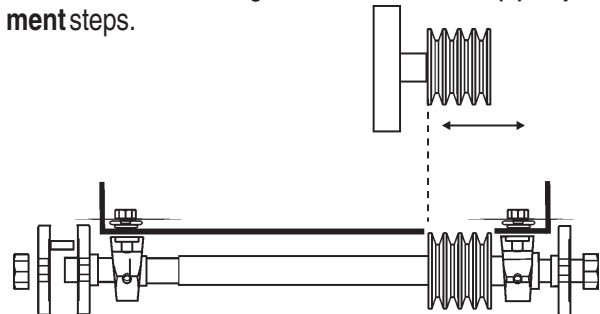
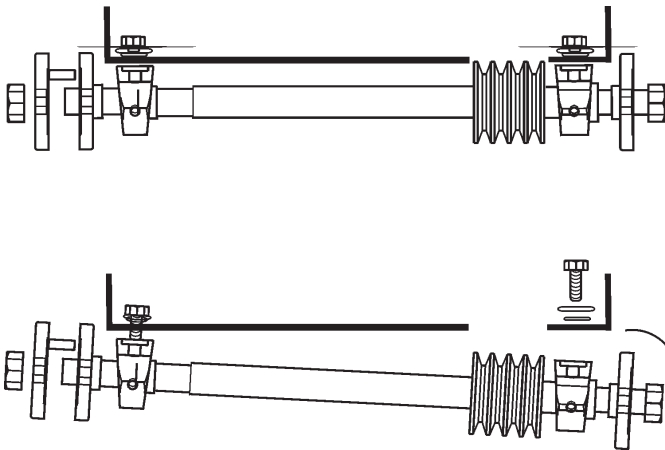

Figure 26. Pulley Alignment
Figure 30. V-Belt Removal
6. Reorient the new pulley on the shaft, and ensure precise pulley alignment by utilizing an accurate straight edge (see Figures 26 and 27).
- Remove **blade flanges** (page 46, items 7 and 8, **Blade Shaft Assembly**) as required to permit the Shaft Bearing(s) to slide off the blade shaft.
- Loosen/remove shaft bearing(s) **hex head cap screws**, page 44, item 11.
6. Tighten the hex head cap screw, page 46, item 11 to secure the shaft bearing (s) to the frame.
7. To complete the re-installation process, reverse the order of the above mentioned steps. For V-belt adjustment and tensioning see pages 32 (Figures 26 and 27) and page 34(Figure 30).
1. Remove the Belt Guard (page 50, item 17), then loosen the tension of the V-Belts
2. Loosen the Engine Mount Carriage Bolt (page 48, item 4).
3. Loosen the (4) 3/8" HHC screws (page 48, item 7).
5. Loosen the (2) 3/4" HHC screws that support the Blade Shaft Bearings on the **right-side** of the saw (page 46, item 11, also see Figure 30).
6. Remove the (2) 3/4" HHC screws that secure the Blade Shaft Bearing on the **V-Belt side** of the saw (page 46, item 11 also see Figure 30).